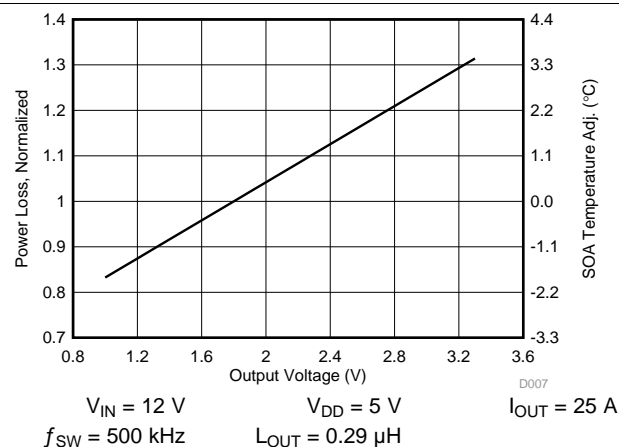

Figure 10. Normalized Power Loss vs Output Voltage
- Normalized Power Loss for output voltage ≈ 1.04 (Figure 10)
- SOA adjustment for output voltage $\approx 0.46^\circ\text{C}$ (Figure 10)